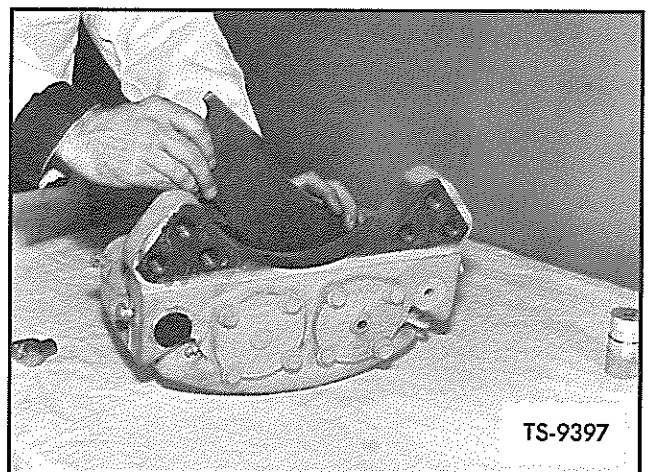

Fig. 14. Remove Carrier and Lining Assemblies
5. With two unlocked pins removed, both carrier and lining assemblies may be easily removed by simply lifting outward as shown in Figure 14.